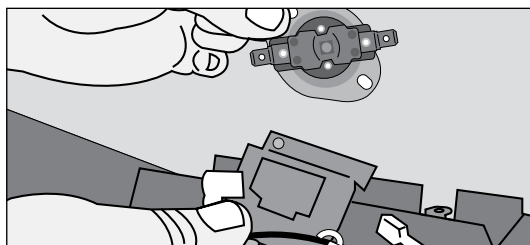

Figure 4 Place new limit under bracket.
6. Remove the limit from behind the brackets and replace with new limit. (Figure 4)